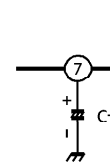

Fig.3 Smoothing function
The Pin⑦ is the smoothing terminal for reducing the pop noise produced at F/R switchover by using the external capacitor C_T. (Fig.3)